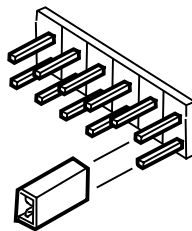

Figure 3-2 Moving a Jumper (Shorting Plug)
2. Locate the position of the system jumpers that you are changing on the PCI board. To change a jumper setting, use a pair of needle-nose pliers or your fingers to remove the jumper from its current location, see Figure 3-2. Position the jumper over the two pins for the desired setting and press it onto the pins. Be careful not to bend the pins. Refer to Table 3-1 for system jumper settings.